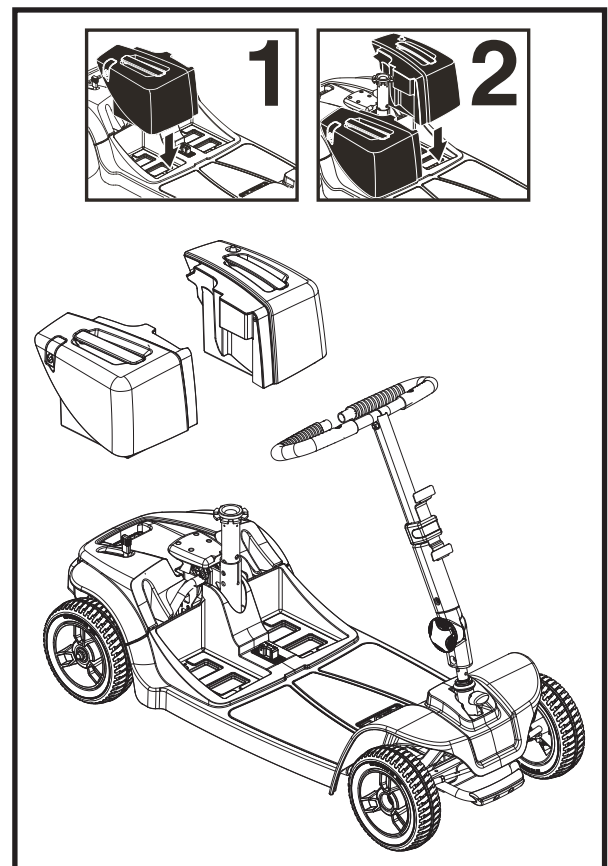

Figure 21. Battery Box Installation of models 66 and 67
12. Reinstall the battery packs onto the scooter and engage the battery pack locks. Always reinstall the right side battery pack first. See figure 21.